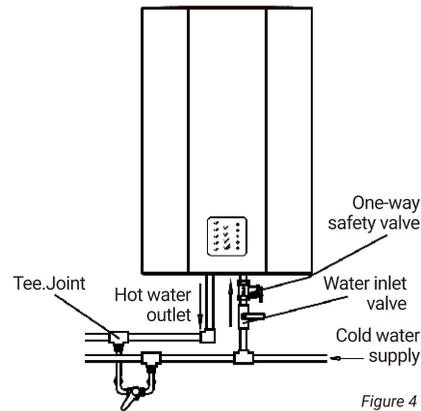

Figure 4
- (8) If users want multi-channel water supply, they can connect the water pipe according to the method shown in Fig 4.